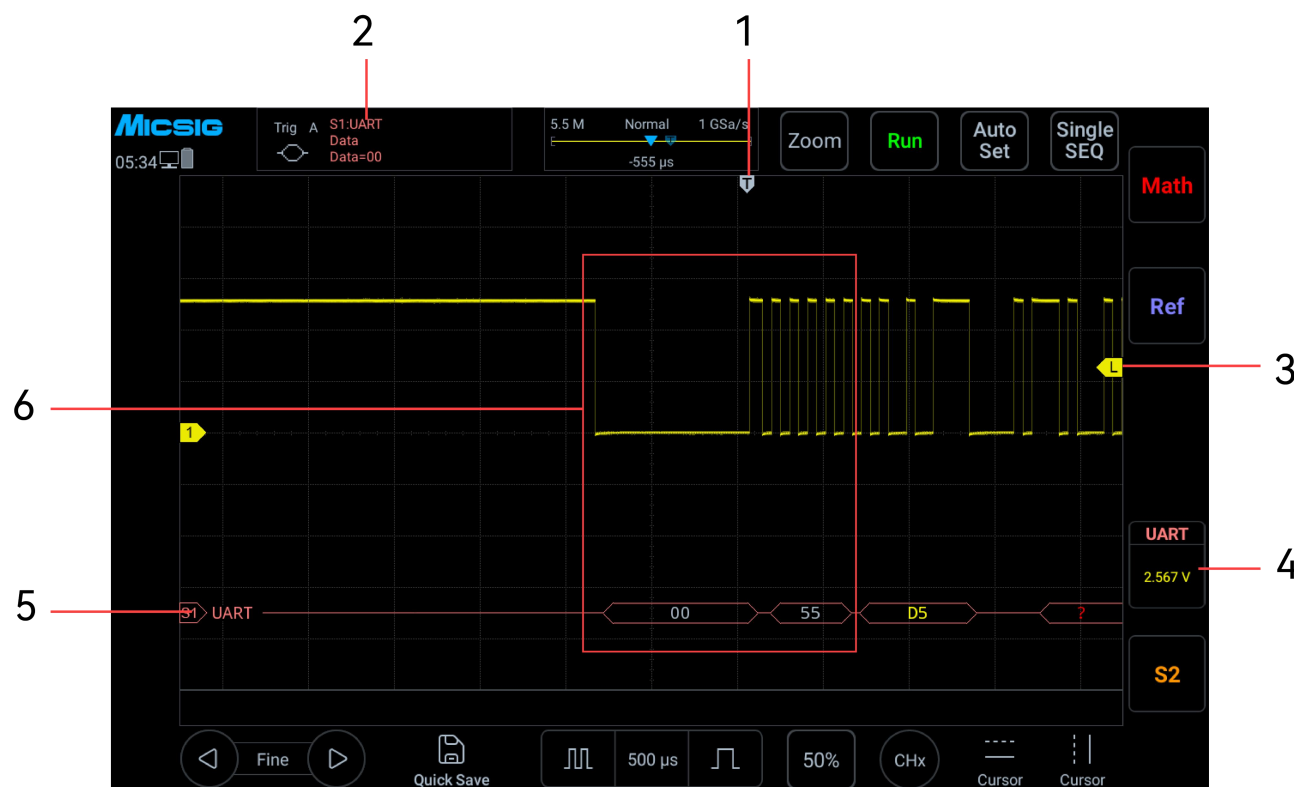

Figure 12-8 UART Graphic Interface
- (1) Tap S1 to open the decode channel, and click S1 again to open the bus configuration menu;
- (2) Select the bus type as “UART”, click “Ch1”, “Idle High”, “Parity None”, “8bit”, “19.20kb/s”, display “hexadecimal”, then close menu;
- (3) Open the trigger mode settings menu, select "Data", set the condition to "=", manually enter the data content as 98, and press the "enter" key to confirm.
- (4) Adjusting the threshold level according to the amplitude level of signal may make the signal to be stably triggered. The UART trigger graphic interface is shown in Figure 12-8: